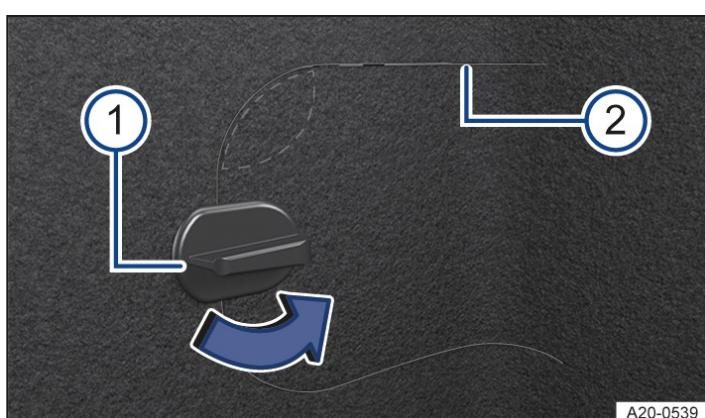

Fig. 2 Lower right-hand side of the luggage compartment trim: flap for the manual release mechanism.
1. Turn the catch of the flap by  $90^\circ$  → *Fig. 2* 1 (blue directional arrow).
2. Press in the area above the catch → *Fig. 2* (highlighted area).
3. Reach into the opening and release the flap by pulling. If necessary, use a suitable tool at the coupling point → *Fig. 2* 2.